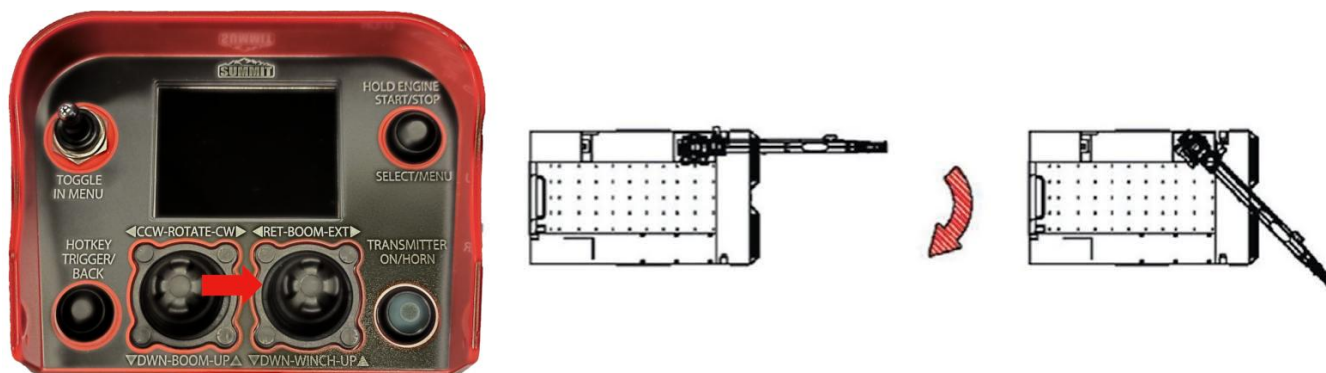

Figure 2-50.
- Press the left joystick to the right to rotate the boom clockwise (see Figure 2-50).